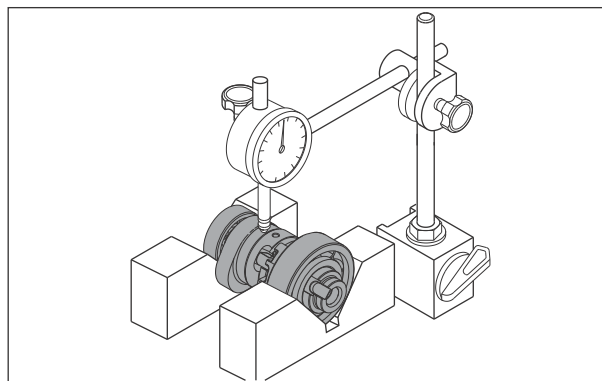

Fig. 3.63
- Measure the runout of the camshaft with a dial gauge. Replace the camshaft with a new one if the runout exceeds the limit. (Fig. 3.63)